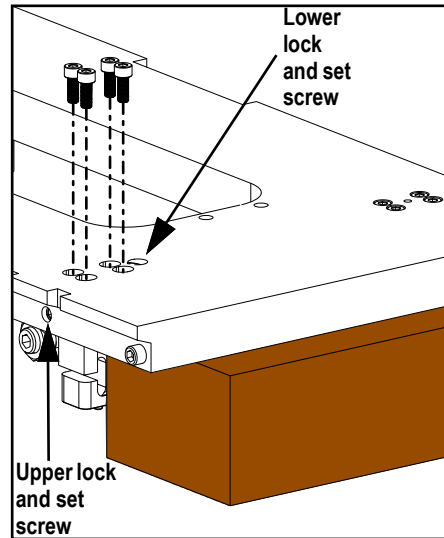

Figure 8-5. Remove Screws from Front Plate
12. Remove the screws securing each flexure being replaced (see Figure 8-5 on page 28).